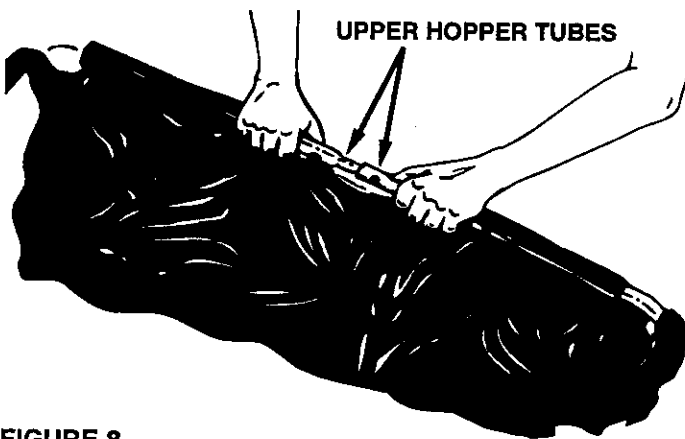

FIGURE 8
- Slide the two upper hopper tubes together and line up the center holes as shown in figure 8.